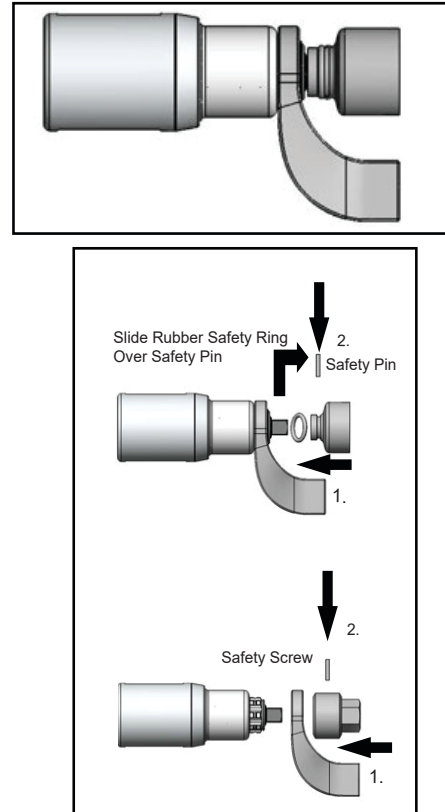

Figure 3: Impact Socket Installation
- Install the impact socket onto the tool square drive with a safety pin (2) and secure a safety o-ring on the socket. Refer to Figure 3 for details.